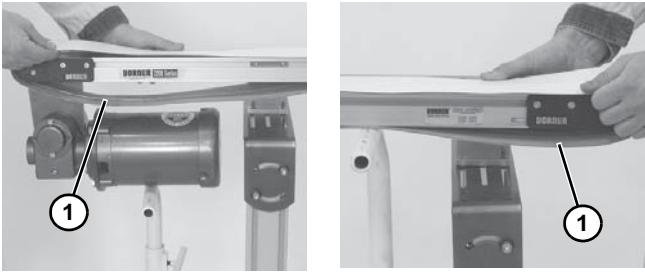

Figure 51
3. Install belt (Figure 51, item 1) on conveyor. Lift conveyor slightly to avoid pinching belt on temporary support stands.